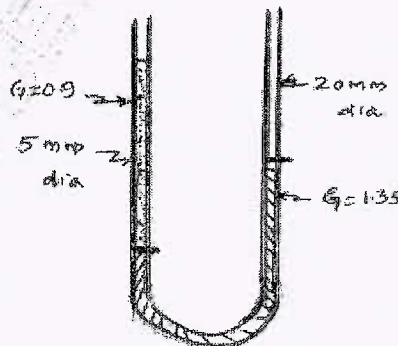

Fig. Q2 (c)
- c. The right and left limb of a "U" tube is of diameter 20 mm and 5 mm respectively. The left limb contains liquid of sp.gravity 0.9 while left limb consists of liquid of sp.gravity 1.35. The positions of the liquid level in the two limbs are shown in Fig. Q2 (c). What pressure should be applied on surface of the heavier liquid in order to rise the level in the limb containing lighter liquid by 10 mm. (08 Marks)